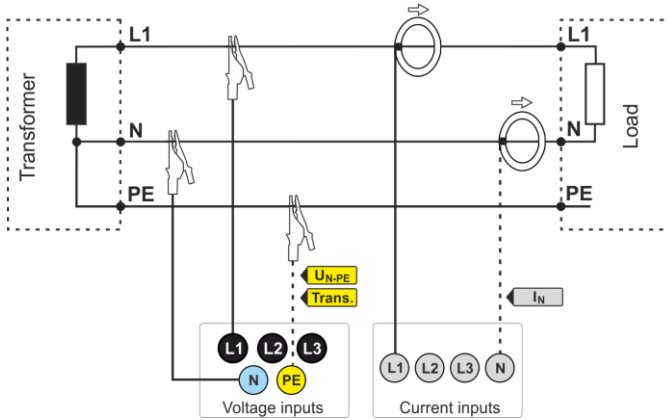

Fig. 16. Wiring diagram – single phase.
- 1-phase (Fig. 16)
Step 1: Connect the analyzer to the tested network, as shown in Fig. 16. Connect inputs L1, N, and PE (for transient measurements). Current probes do not need to be connected, as the current measurement is not required. Power supply of analyzer (red wires) may be also connected to the tested network, or other power supply that is compatible with analyzer's power adapter input ratings, to avoid battery discharge during recording.